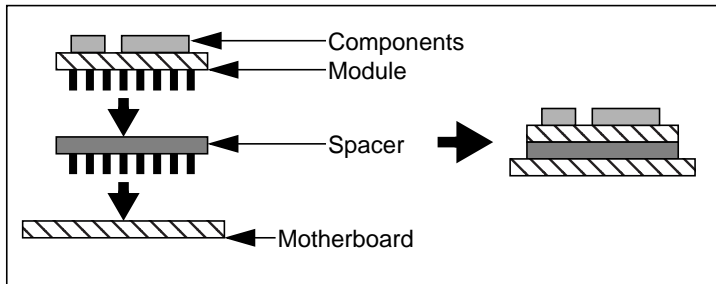

Figure 7. TRAM spacer
- TRAMs are shipped with spacers attached to their pins to raise them above any components on the motherboard. When there are no components on the motherboard these spacers can be removed if you wish to lower the height profile of the motherboard/TRAM combination. However please bear in mind that adequate airflow under the TRAM is required for cooling. See figure 7.